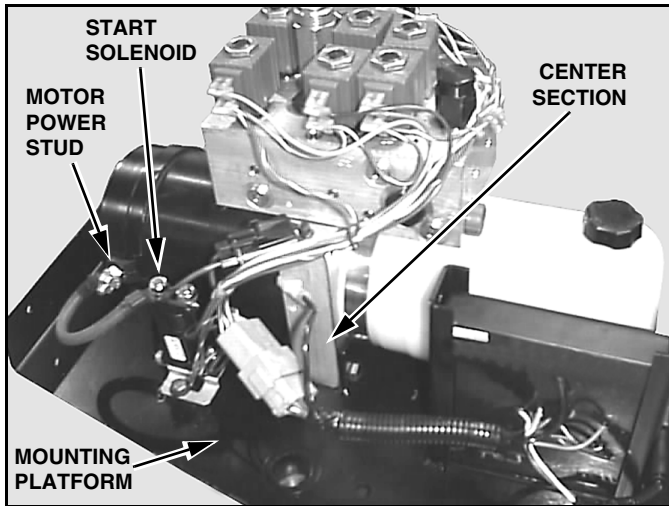

Figure 2-2
4. Remove the red power lead from the motor power stud. Remove the black wire of the power harness and the black ground wire to the control receiver from the 3/8" screw in the center section of the power unit. Disconnect the 12-pin connector of the power unit valve wire harness. Remove the red/black wire and the red wire of the power harness from the 5/16" terminal of the start solenoid. Remove the red/white wire and the brown wire from the #10 terminals of the start solenoid. Mark wires and terminal locations to aid in re-connecting the wires after the oil change. (See Figure 2-2).
6. Remove the two 5/16" cap screws that fasten the center section of the power unit to the pump platform. (See Figure 2-2).